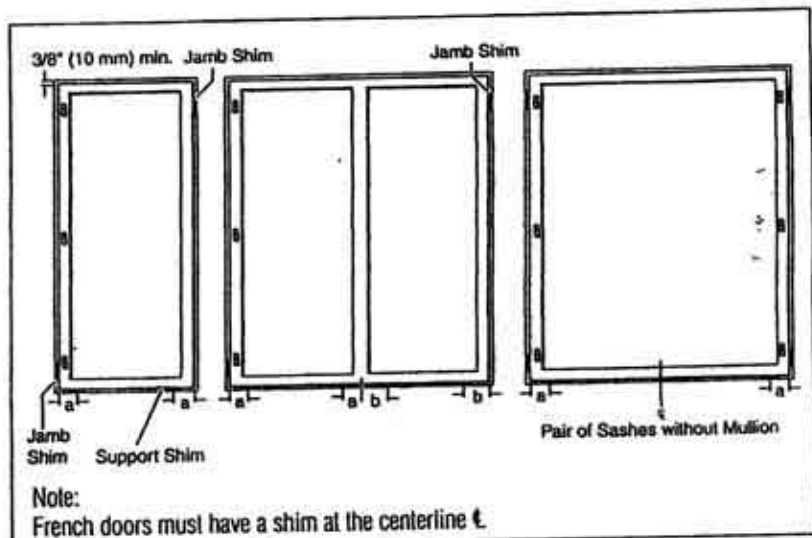

Figure 4-11. Where to put the support shims and jamb shims
- 4.4 Shim sill of frame approximately 2" from the corners and on both sides of any mullions with 4" x 1 1/2" shims. See fig. 4-11. **Adjust the height of the shims to obtain a level sill**, ensuring you have a 3/8" gap at the head (inter-storey deflection not to exceed + 3/8").